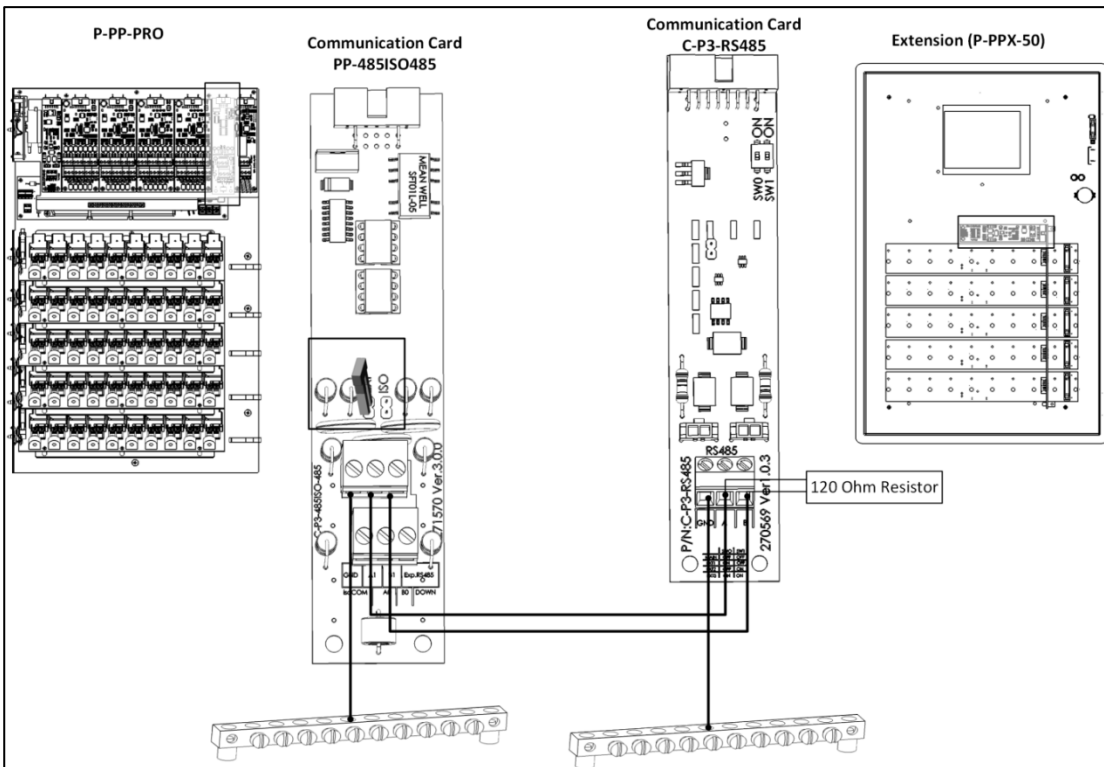

Figure 51: Expansion Box – Controller Termination
- If an Expansion unit is installed at the end of a chain, install a 120 Ohm termination resistor (supplied by Munters) (Figure 51).